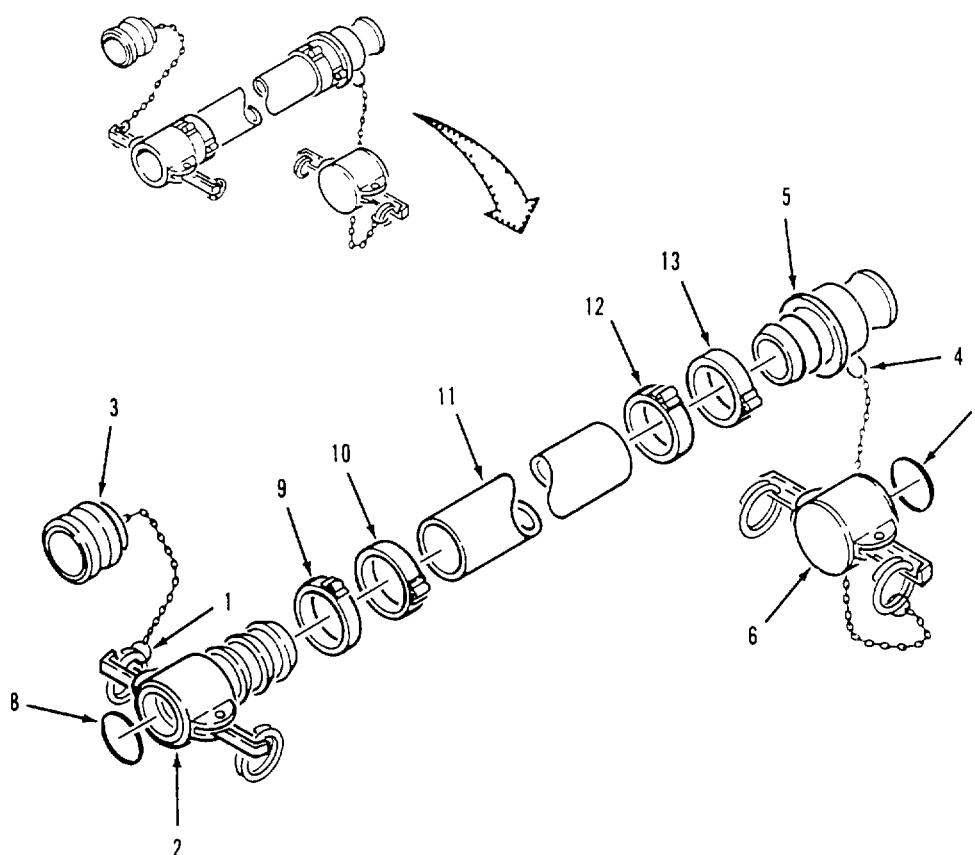

Figure 4-6. Discharge and Suction Hose Disassembly.
**a. Disassembly.** Refer to figure 4-6.
- (1) Disconnect split ring (1) from female coupling (2) and remove dust plug (3).
- (2) Disconnect split ring (4) from male coupling (5) and remove dust cap (6).
- (3) Remove gasket (7) from dust cap (6).
- (4) Remove gasket (8) from female coupling (2).
- (5) Cut strapping (clamps) (9 and 10) from hose (11). Pull female coupling (2) from hose.
- (6) Cut strapping (clamps) (12 and 13) from hose (11). Pull male coupling (5) from hose.
- (1) Wash all components with clean water and detergent.
- (2) Rinse components in clean water and dry with wiping rag.
c. Inspection Refer to figure 4-6.
- (1) Inspect female coupling (2) and dust cap (6) for cracks, corrosion, and damaged locking arms.
- (2) Inspect male coupling (5) and dust plug (3) for cracks and corrosion
- (3) Inspect hose (11) for cuts, tears, punctures and delamination.
- (1) Push male coupling (5, figure 4-6) and female coupling (2) into hose (11).